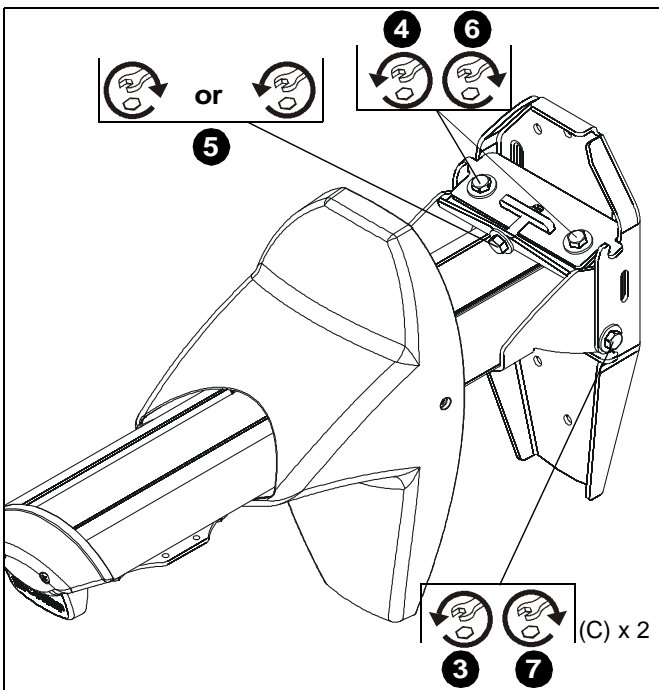

Figure 20
3. Loosen two 5/16-18 x 1/2" screws (C) on each side of mounting bracket. (See Figure 20)
4. Loosen two bolts on either side of pitch adjustment screw. (See Figure 20)
5. Adjust pitch adjustment screw until mount is at desired pitch level. Turn clockwise to raise mounting level or turn counterclockwise to lower mounting level. (See Figure 20)
6. Tighten two bolts on either side of pitch adjustment screw. (See Figure 20)
7. Tighten two 5/16-18 x 1/2" screws (C) on each side of mounting bracket. (See Figure 20)